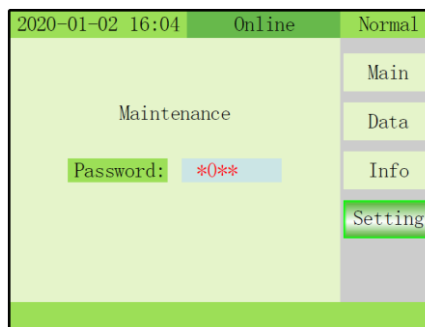

Fig. 3-16 Setting/Maintenance menu
- 9) MAINTENANCE: Press  + OFF key to enter maintenance and display a password window. This setting is only accessible by authorized personal. Contact ZIGOR for training. (Fig. 3-16).